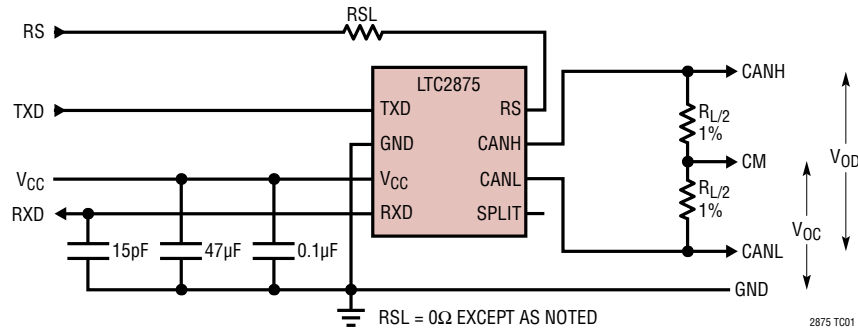

Figure 1. All Electrical Characteristic Measurements
**ELECTRICAL CHARACTERISTICS** The ● denotes the specifications which apply over the full operating temperature range, otherwise specifications are at  $T_A = 25^\circ\text{C}$ .  $V_{CC} = 3.3\text{V}$  or  $5\text{V}$ , Figure 1 applies with  $R_L = 60\Omega$ ,  $R_S = 0\text{V}$ , TYP values at  $V_{CC} = 5\text{V}$  unless otherwise noted. (Note 2)
**SWITCHING CHARACTERISTICS** The ● denotes the specifications which apply over the full operating temperature range, otherwise specifications are at  $T_A = 25^\circ\text{C}$ .  $V_{CC} = 3.3\text{V}$  or  $5\text{V}$ , Figure 1 applies with  $R_L = 60\Omega$ ,  $C_L = 100\text{pF}$ ,  $R_{SL} = 0\Omega$ ,  $R_S = 0\text{V}$ , TYP values at  $V_{CC} = 5\text{V}$  unless otherwise noted. (Note 2)
The driver features adjustable slew rate for improved EME performance. The slew rate is set by the amount of current that is sourced by the RS pin when it is pulled below approximately 1.1V. This allows the slew rate to be set by a single slew control resistor RSL in series with the RS pin (Figure 1).